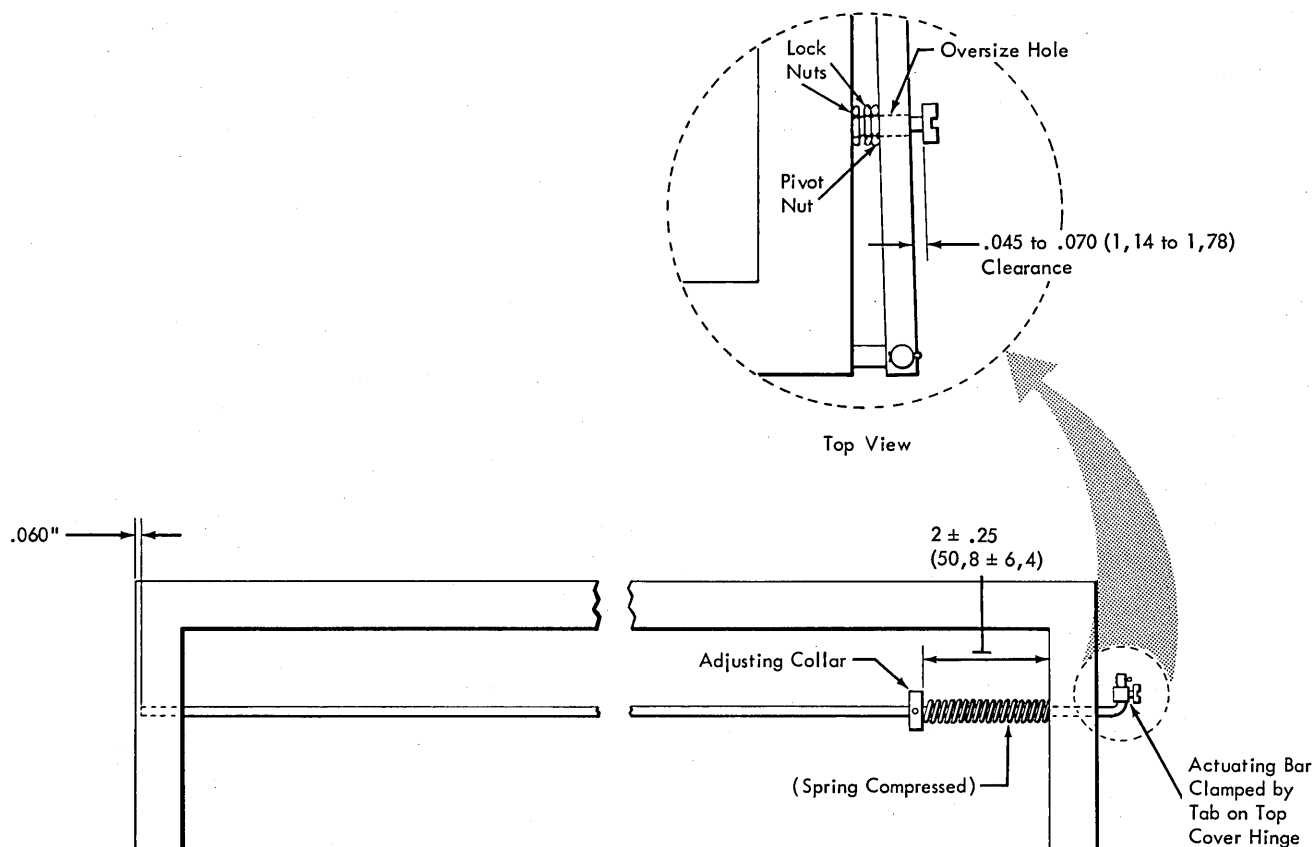

Figure 4-8. Interlock-Rod Adjustment (Latched)
1. Adjust the collars on the interlock rods (Figure 4-8) to set the length of the compression springs at $2 \pm .25$ in. ($50, 8 \pm 6, 4$ mm).